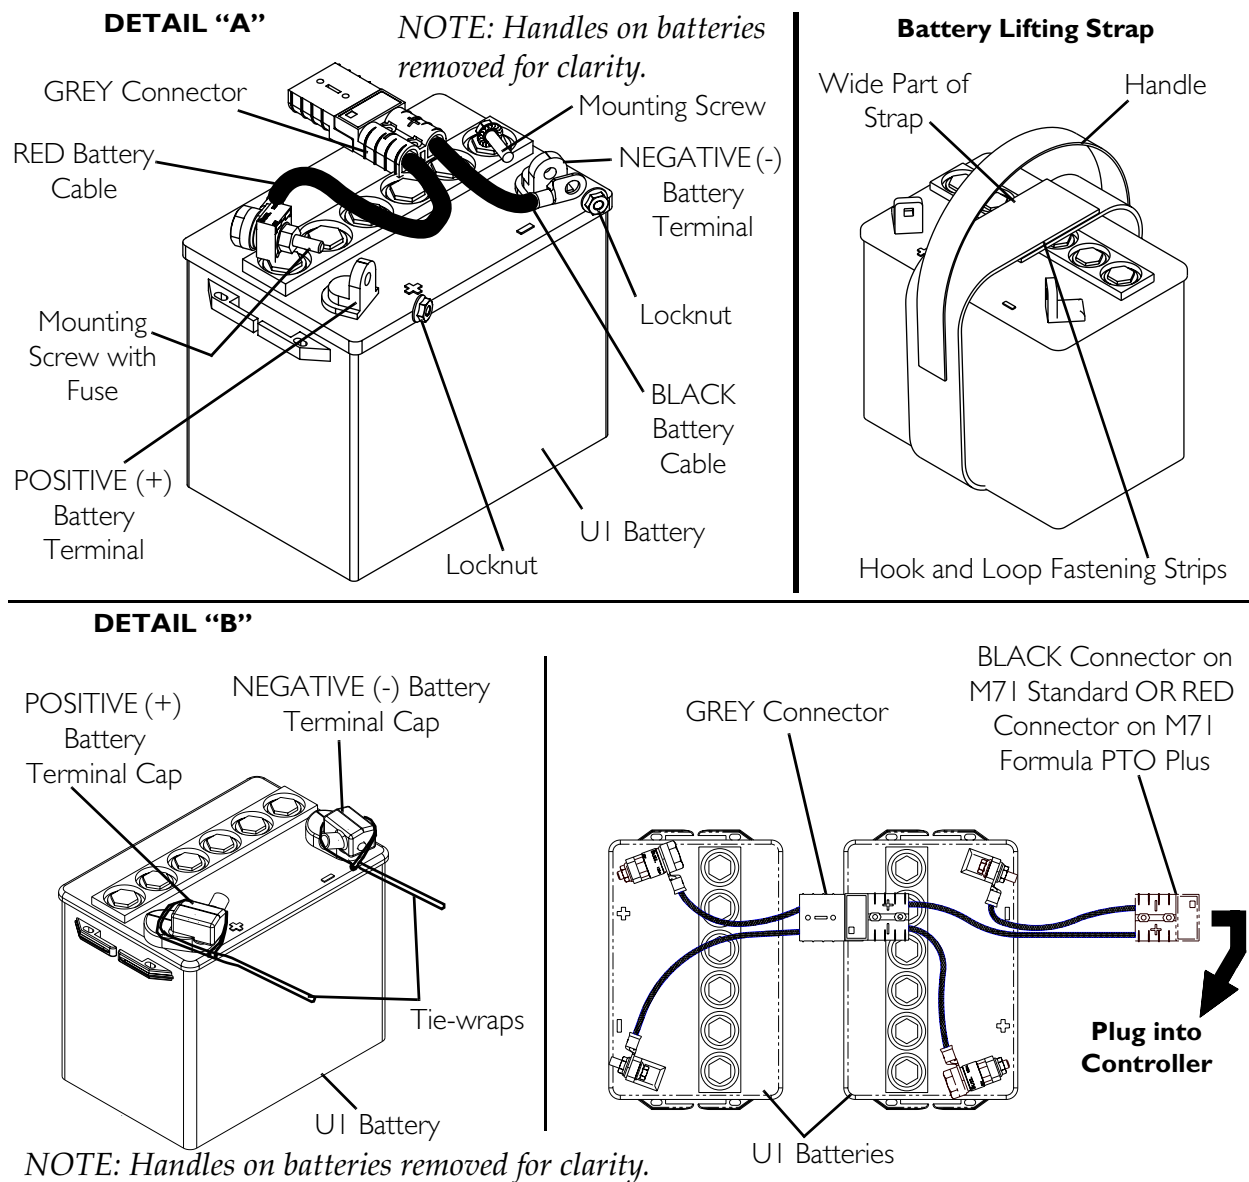

FIGURE 15.3 Connecting/Disconnecting Battery Cables
Battery terminal configuration as shown in FIGURE 15.3, DETAIL “A”, MUST be used. Batteries that have the terminal configuration reversed MUST NOT be used - otherwise serious injury or damage may occur.
When connecting the battery cables to the batteries, the battery cables **MUST be connected to the battery terminals as shown in **FIGURE 15.3, DETAIL “B”**, (depending on battery type), otherwise damage to the battery cable may result when installing battery terminal caps.**
- B. Place the wide part of the lifting strap around the middle of the battery with the hook and loop strips on top, as shown in **FIGURE 15.3**.
2. Secure the battery cables to the battery terminals as described below. Securely tighten. Refer to Detail “A” of **FIGURE 15.3**:
4. Slide terminal cap(s) down battery cables and onto battery clamps (Detail “B” of **FIGURE 15.3**).
5. Secure each terminal cap in place with a tie-wrap [use tie-wraps 11-1/2-inches long] (DETAIL “B” in **FIGURE 15.3**).
6. Cut the tie-wrap that secures the battery terminal cap in place. See Detail “B” in FIGURE 15.3.
8. Disconnect POSITIVE (+) RED battery cable from the POSITIVE (+) battery terminal (FIGURE 15.3).
9. Disconnect NEGATIVE (-) BLACK battery cable from NEGATIVE (-) battery terminal (FIGURE 15.3).